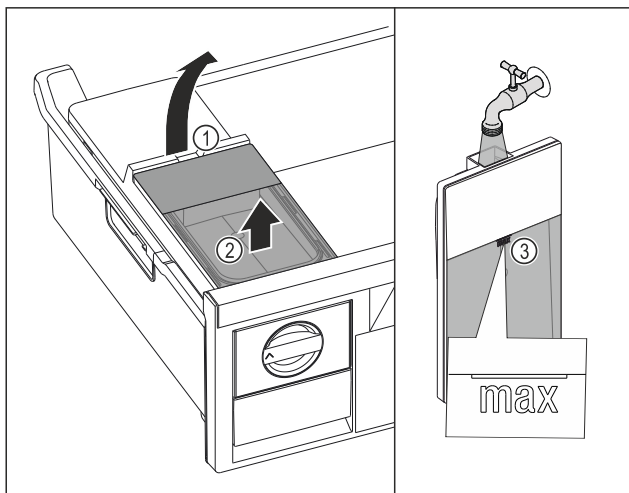

Fig. 71
- Lift the water tank at the recess Fig. 71 (1).
- Remove the water tank by lifting it upwards. Fig. 71 (2)
- Fill the water tank with drinking water up to the mark Fig. 71 (3).